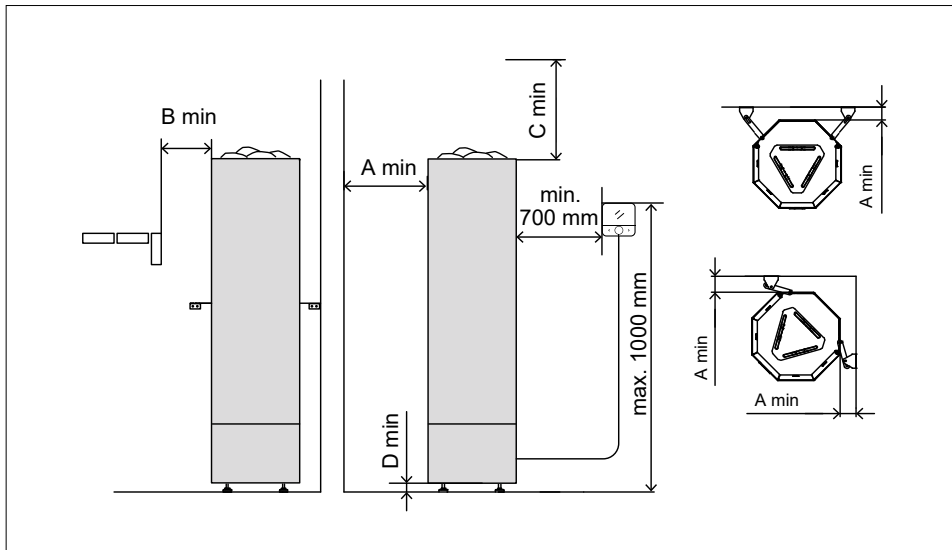

Figure 4. Minimum safety distances
A heater guard can be built around the sauna heater if necessary, and its design must always comply with the minimum safety distances from combustible materials as specified in the instructions (Figure 4 and Table 2).
- The control unit must not be installed in a location where the temperature exceeds 80°C maximum temperature. If the control unit is installed in the steam room, the installation location must be at least the minimum protection distance (0.7 m) from the heater and at most one meter (1 m) above the floor (see Figure 4). Power supply cables and the control unit's cable should not be installed next to each other to avoid interference.